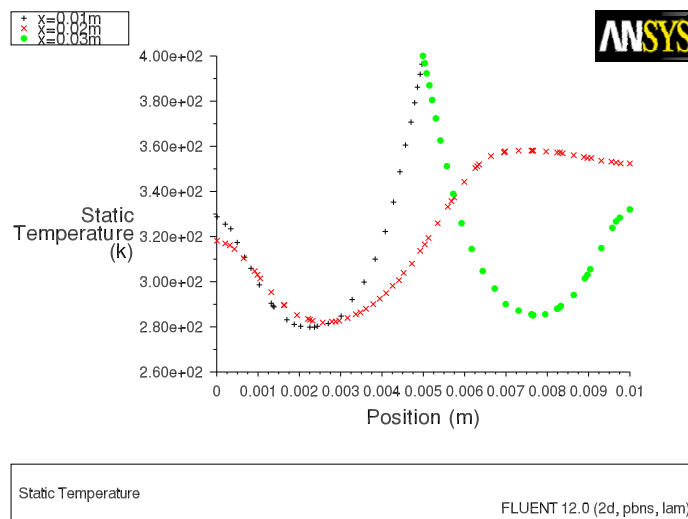

Figure 2.7: Static Temperature at $x=0.01$, 0.02 , and 0.03 m
7. Create an XY plot of static temperature on the three isosurfaces (Figure 2.7).